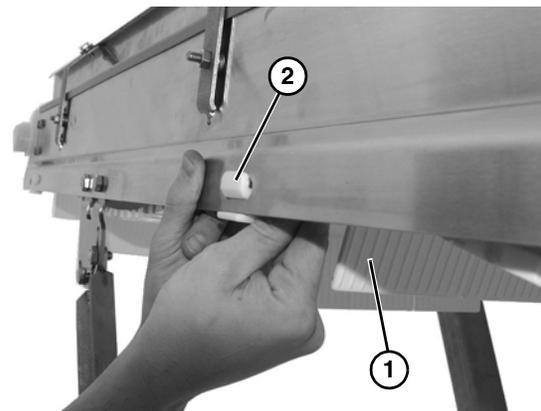

Figure 19
2. Install belt (**Figure 19, item 1**) around lower frame section and above lower wear strip (**Figure 19, item 2**).